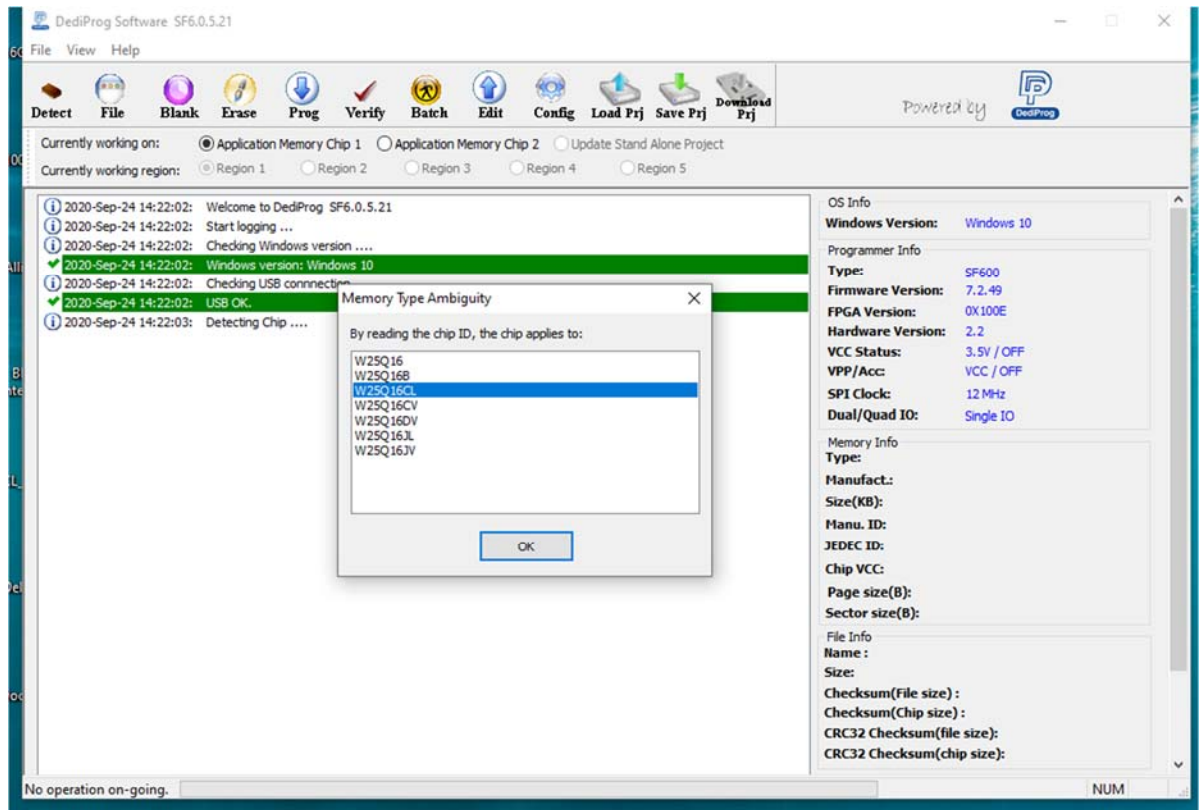

Figure 22: Choose the chip from memory list
- Step 2: Detect → choose First Chip number in the Memory list. (See Figure 22)